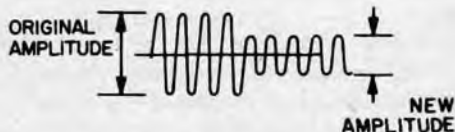

Fig. 3—Simplified amplitude modulation of the RF carrier wave.
A very simple type of AM is shown in Fig. 3. Here the amplitude of the carrier wave has been changed suddenly to half its former value.
**Amplitude Modulation—A Closer Look.** The sudden drop in amplitude shown in Fig. 3 is a good way to show the general scheme of AM, but it fails to tell us very much about how AM is used, every day, in our AM receivers and CB rigs. Here there are (hopefully) no sudden shifts in carrier amplitude but instead, there is a remarkable recreation of speech and music from a distant transmitter. How is this done?